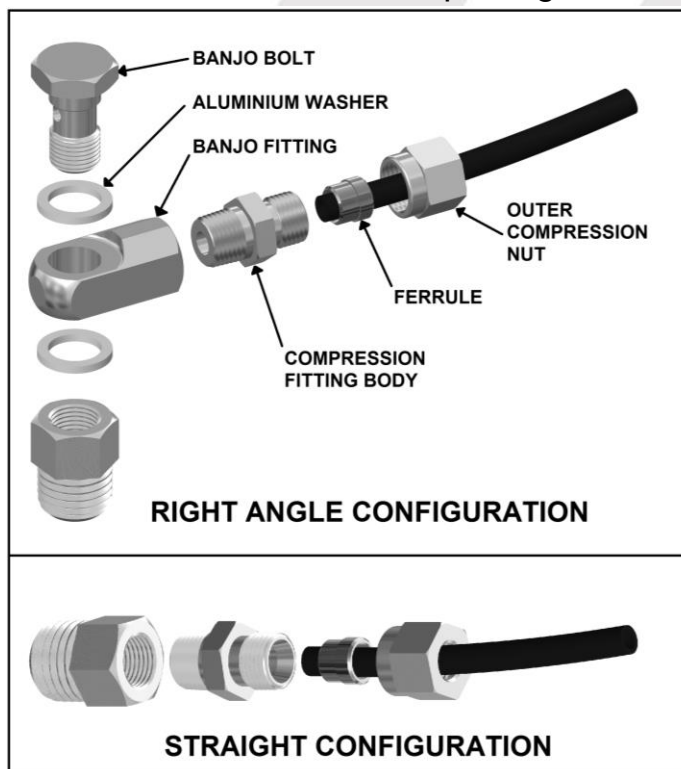

Figure 19.
- Assemble an aluminium washer onto the banjo bolt and insert through the banjo fitting. Assemble second aluminium washer and tighten into bulkhead fitting using a 14mm [9/16"] spanner. (Fig.19.)
- Insert the outer compression nut and ferrule over the air line. Ferrule should be orientated as per Fig.19.
NOTE : When right angle routing of the tube is not required, screw the compression fitting body straight into the bulkhead fitting body (Fig.19.).